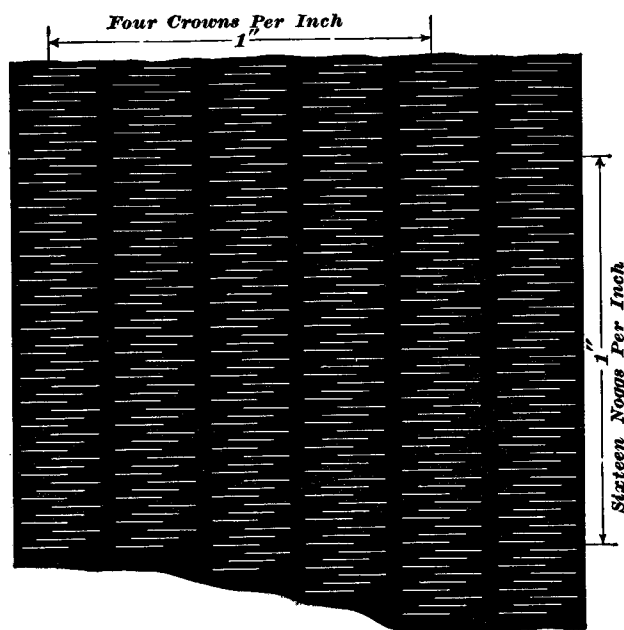

FIG. 2. RIB-SET CLOTHING
6. If you look at the surface of card clothing, the teeth seem to be tightly set without any particular pattern. But if you look at the back of fillet clothing, you'll note that the crowns form a riblike pattern as shown in Fig. 2. Note how one crown is off to the left, one is in the center, and the third is to the right of the rib. On the surface of the clothing there will be, of course, two points for each crown. The three crowns you have just observed form a short diagonal line within the rib. Each group of three crowns is called a nogg.
7. When it comes to ordering card clothing, you must know how to specify the clothing you want. There are two ways of doing that, the American and the English system. Both are used in the United States; so, while two systems are a nuisance, you'll have to become familiar with both of them. Either way, you must first take a ruler and measure the crowns per inch and the noggs per inch. In Figs. 2 and 3 you'll see how to go about this.
EXAMPLE. Look at the rib-set clothing in Fig. 2. Note that there are 4 crowns per inch in the width, and 16 noggs per inch in the length. Recall that there are 3 crowns per nogg in rib-set clothing. How many points per square foot does this clothing have?